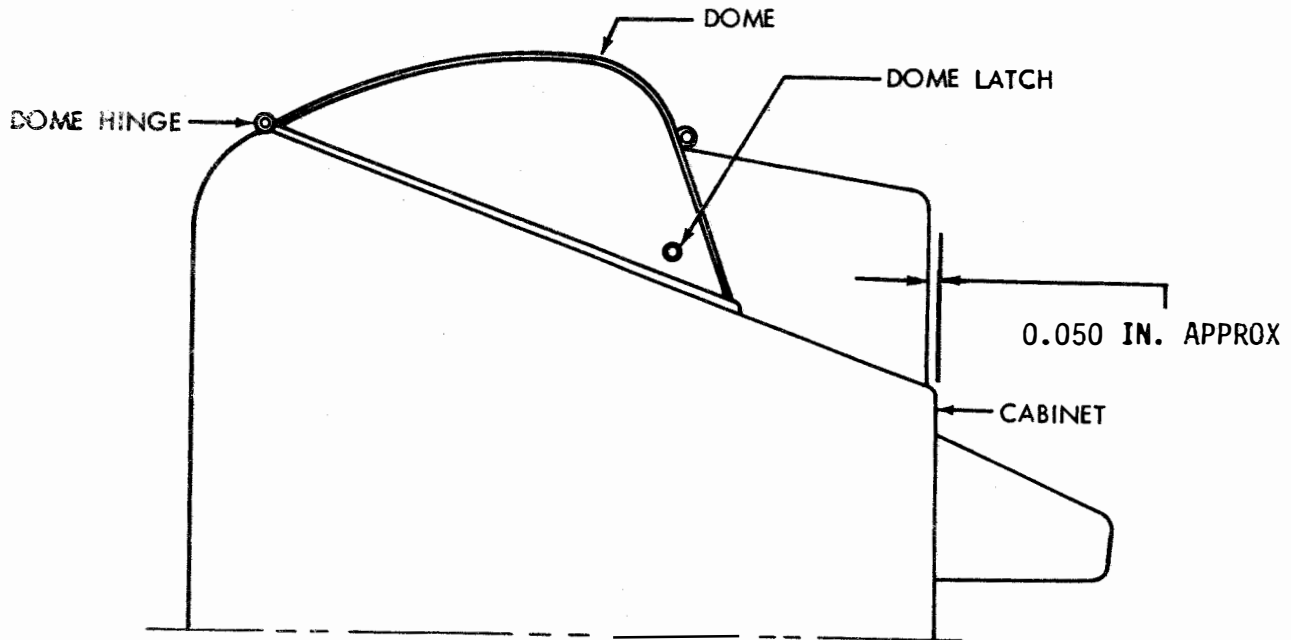

Figure 6-346. Dome Centering
(1) Refer to Figure 6-346.
(2) Center dome on cabinet, left and right, and approximately 0.050 inch from front edge of cabinet or so extruded portions of left front door line up with right front crossbar.
(3) To adjust: